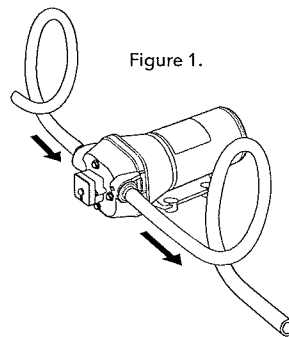

Figure 3.
- 4: Install inlet (A) and discharge (B) fittings. Firmly push slide clips (C) forward to lock fittings in place. - Figure 3